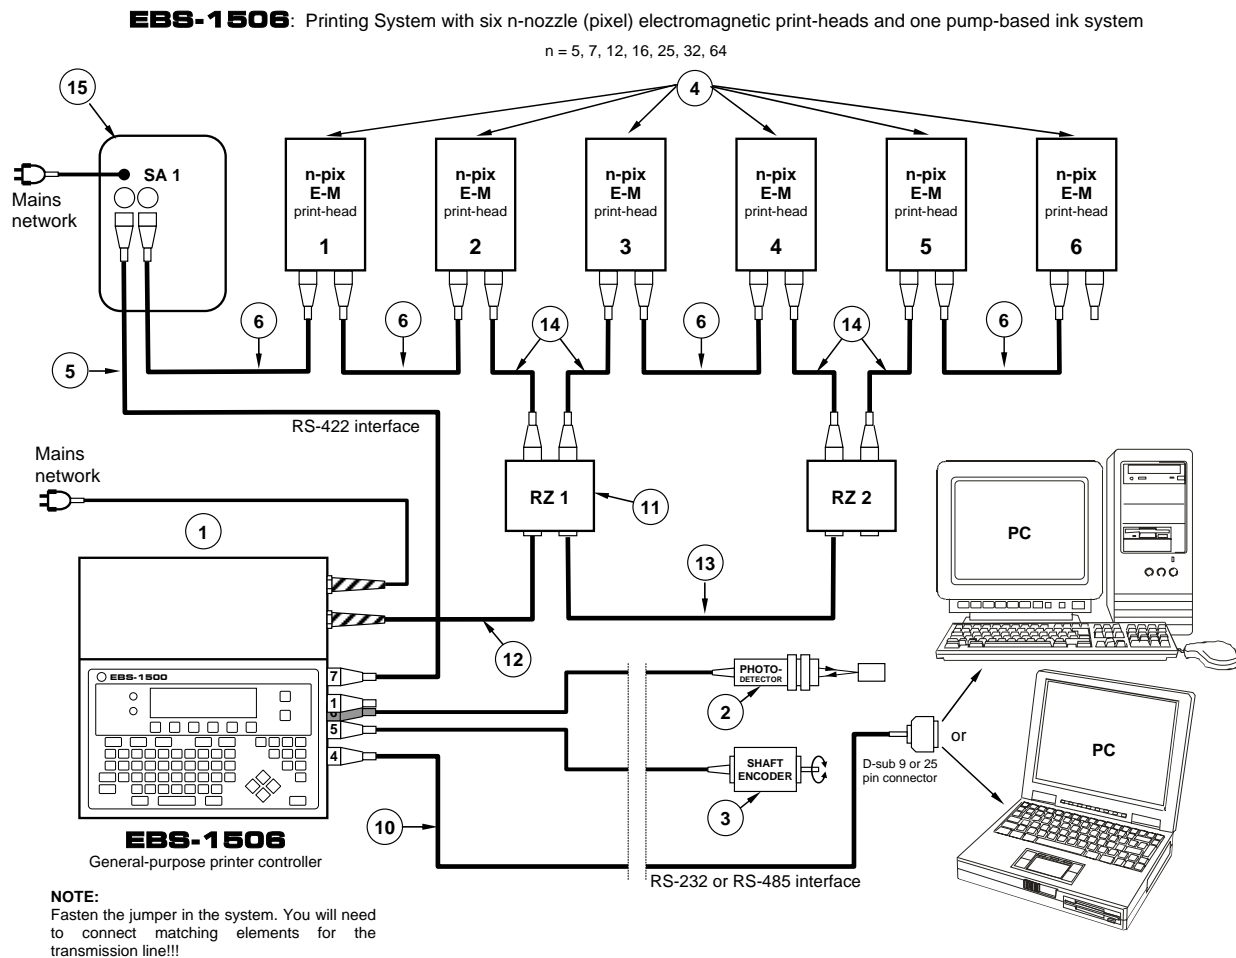

Fig. 4.2.6. Connection diagram for a printing system with six electromagnetic print-heads and one ink system with an ink pump.
- The six-head printing system shown in **Fig. 4.2.6** is an illustration of how to connect the system elements. The system will work properly only when the requirements presented in section **4.1 Restrictions on Printing System Configuration** are satisfied and when it is designed in compliance with the guidelines given in section **4.7 Rules for designing a multi-head printing system**.